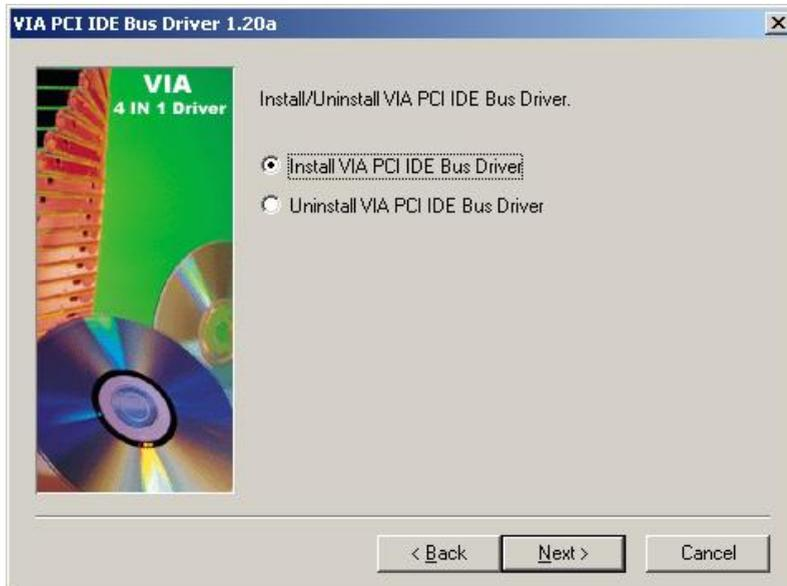

Figure 7-7: VIA® PCI IDE Bus Driver Selection
Step 8: The setup then prompts the user (see **Figure 7-7**) if the VIA® PCI IDE Bus Driver must be installed on the system. Select install or uninstall. Click “**NEXT**” to continue.